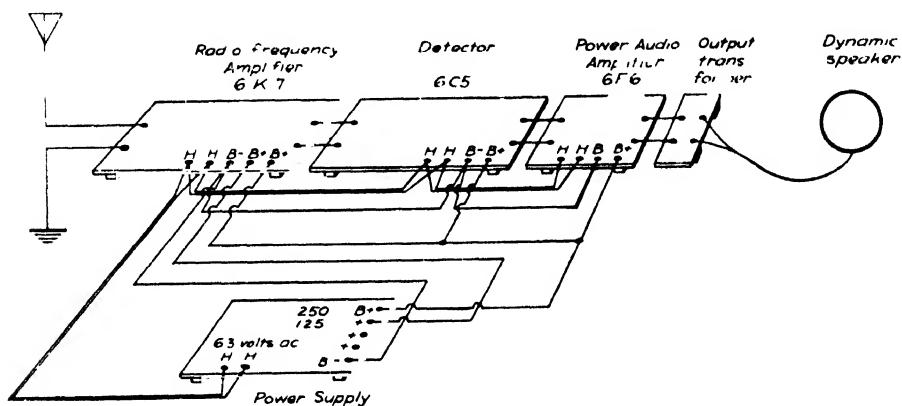

FIG. 332. Connect these three boards together to form a three-tube set.
Step 1. Connect together the radio-frequency amplifier, the detector, and the audio-amplifier circuit boards, as shown in Fig. 332.